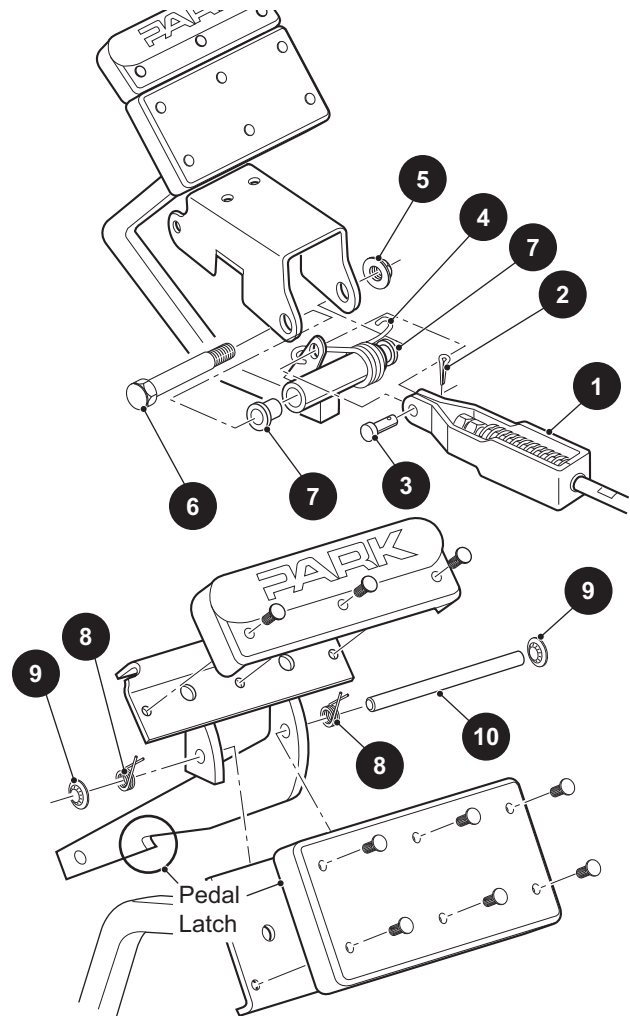

Figure 27 Brake Pedal Removal and Installation
Disconnect the compensator assembly (1) from the brake pedal by removing the cotter pin (2) and the clevis pin (3). Unplug the wiring harness on models equipped with brake lights. Unhook the torsion spring (4) by inserting a thin blade screwdriver between the small hook and the bracket. Move the hook back and to the side to release the torsion spring (Figure 27). Remove the lock nut (5), the shoulder bolt (6) and remove the brake pedal.
Note the location and orientation of the two torsion springs (8). Remove the push nut (9) and pin (10) (Figure 27) and remove the parking brake pedal. Some models may use two push nuts on the pin.